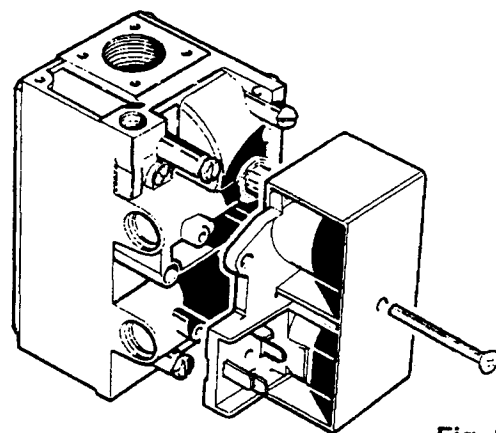

Fig. 30
Refer to fig. 30 Part No. 0750
- 8.12.2 Release the screw securing the operator bracket to the gas valve body. (Fig. 30)